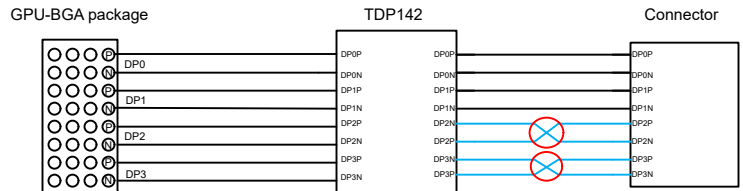
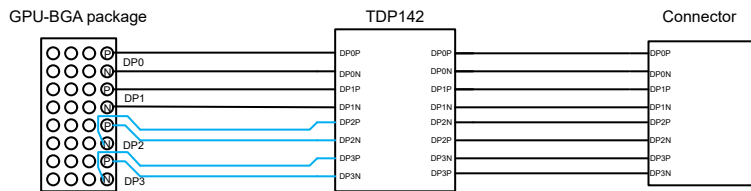

Figure 8-7. Layout Example: Signal Crossing on the Output
Figure 8-8. Layout Example: INDP2 and INDP3 Polarity Swap
10. The layout can face signal crossing on OUTDP2 and OUTDP3 due to mismatched order between the output pins of the device and the connector (see Figure 8-7). One option is to do a polarity swap on the input of the device when GPU is a BGA package to help minimize the number of VIAS being used.
The following figures demonstrate how to adjust mismatched order between the output of the device and the DisplayPort connector for the source using a BGA package. **Figure 8-7** shows the crossing section between TDP142-Q1 and connector. Usually, vias are applied to avoid the cross, but using a via can attenuate the signal integrity. Therefore, the polarity swap can be implemented at the input of TDP142-Q1. **Figure 8-8** shows there is no more crossing section between the TDP142-Q1 and connector, which can minimize the number of vias being used. Note that this option is only useful for the source using a BGA package.